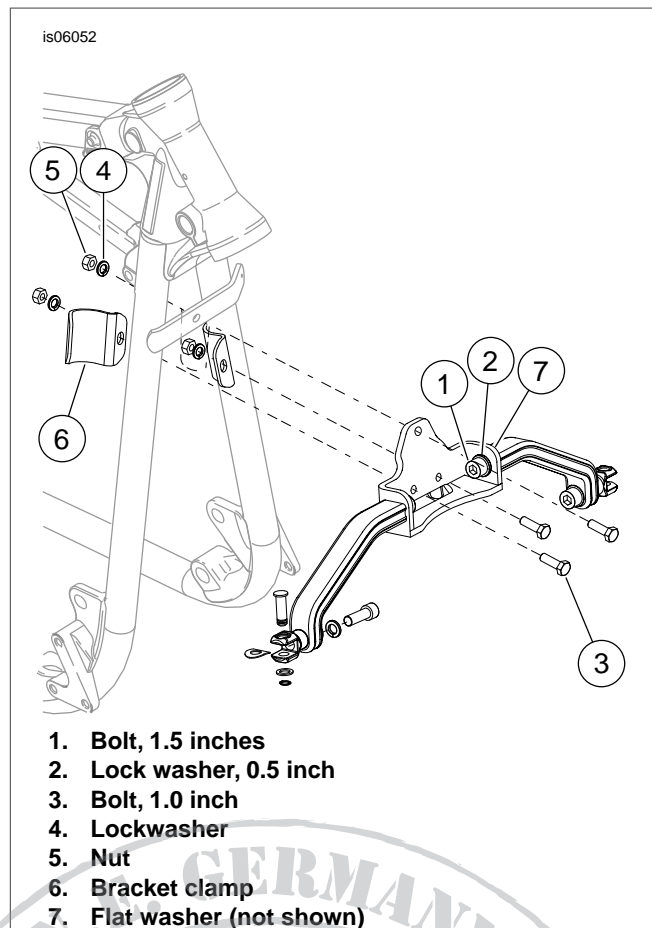
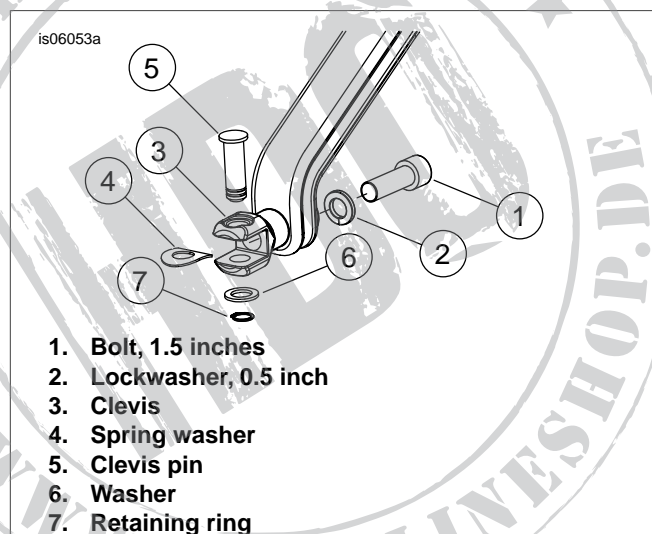

Figure 1. Install Mounting Bracket
Figure 2. Install Footpegs
1. See Figure 1. Assemble the arms to the center frame bracket using bolts (1), lock washers (2) and flat washers (7) (not shown). Screw in bolts finger-tight.
2. Place the center flange of the arm assembly **behind** the cross member just below the steering head and insert a bolt (3) through the cross-member and arm assembly bracket.
3. Install a lockwasher (4) and a nut (5) to the arm assembly bolt and tighten to 15 ft-lbs (20.3 Nm).
4. Install the bracket clamps (6) to wrap around the back of the down tubes and attach to the center arm bracket using the bolts (3), lockwashers (4) and nuts (5). Tighten bolts to 15 ft-lbs (20.3 Nm).
5. See Figure 2. Install the clevis (3) to the arm bracket using bolt (1) and washer (2). Screw in bolt finger-tight.
6. Position the square end of the spring washer (4) to the inside of the clevis and the rounded edge facing out from the end of the clevis. Hold the spring washer in place and position the footpeg (purchased separately) into the clevis and install the clevis pin (5) into the clevis and secure the pin with a lock washer (6) and retaining ring (7).